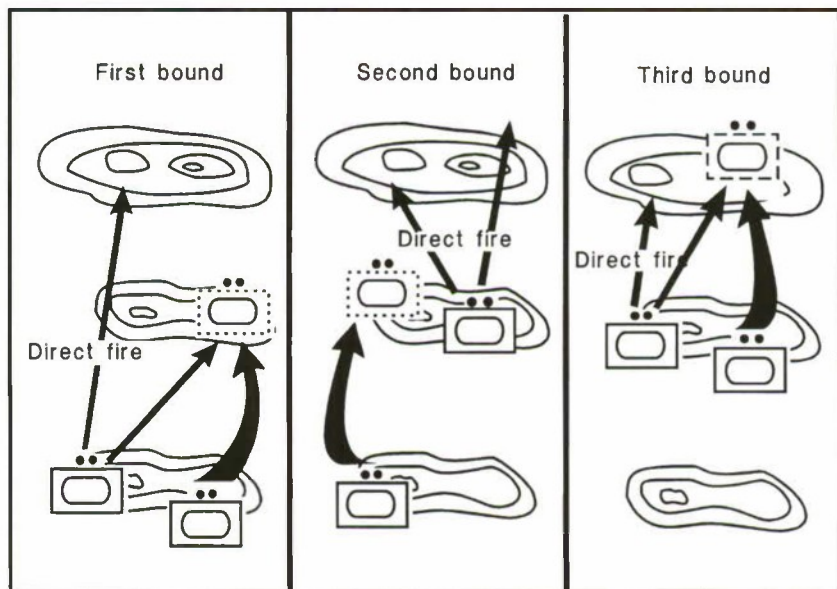

Figure 3-2. Movement by successive bounds.
- **Successive bounds.** In this method, the lead element, covered by the rear element, advances and takes up an overwatch position. The rear element advances to an overwatch position abreast of the lead element and halts. The lead element then moves to the next position, and so on. Only one element moves at a time, and the rear element avoids advancing beyond the lead element. This method is easier to control and more secure than the alternate bounding method, but it is slower. (Refer to Figure 3-2, page 3-12.)